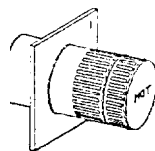

Figure 35
**2. Install the round termination (SV4.5HTR)** - See Figure 35 for an illustration of the round termination. For the last step, from outside the exterior wall, slide the collars of the termination onto the adapter (the outer over the outer and the inner inside the inner) until the termination seats against the exterior wall surface to which it will be attached. Orient the housing of the termination with the arrow pointed upwards. Secure the termination to the exterior wall.
and Figure 35 when using SV4.5HTSS terminations.